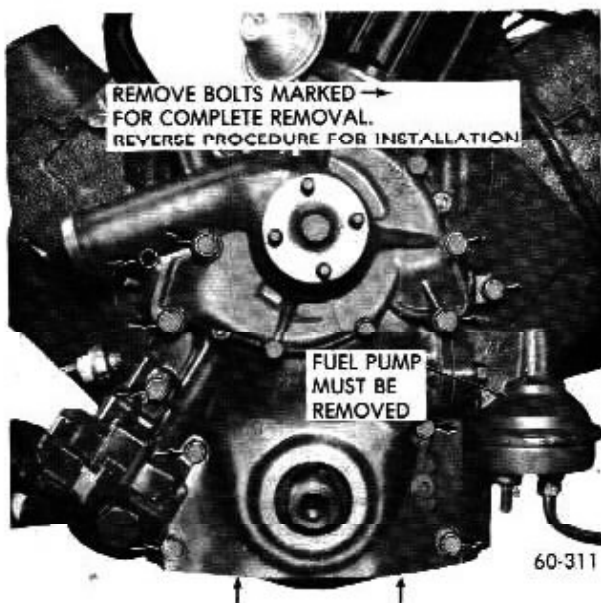

Figure 60-108 - Timing Chain Cover Removal and Installation (350 cu.in.)
11. Remove bolts attaching timing chain cover to cylinder block. See Figures 60-108 and 60-109. Remove two oil pan to timing chain cover bolts 350 Cu. In. and 4 bolts on the 455 Cu. In. Remove timing chain cover assembly and gasket. Thoroughly clean the cover, taking care to avoid damage to the gasket surface.
4. Lubricate the bolt threads before installation and install as shown in Figures 60-108 and 60-109.